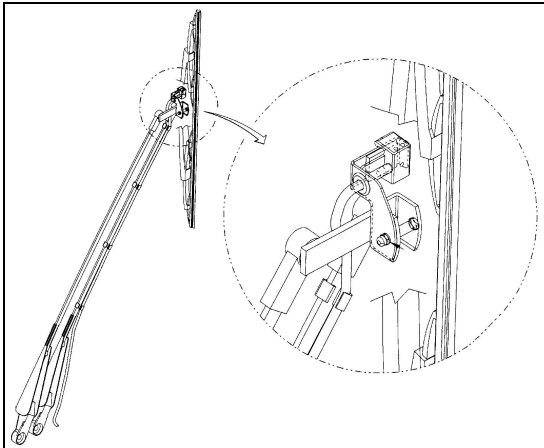

FIGURE 5 : WINDSHIELD WIPER (DRIVER SIDE)
12. Install the windshield washer tubing, wiper blade and washer nozzle as shown in figures 5 & 6.